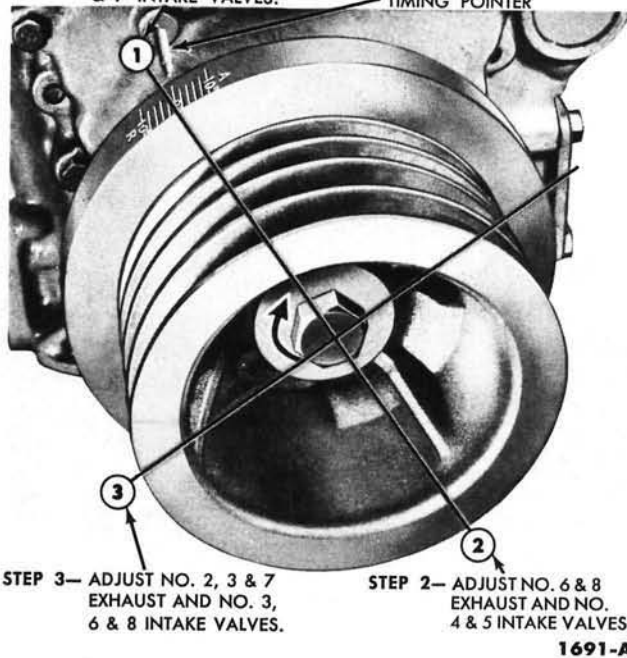

FIG. 27—Preliminary Valve Lash Adjustment
1. Make three chalk marks on the crankshaft damper (Fig. 27). Space the marks approximately 90° apart so that with the timing mark, the damper is divided into four equal parts (90° represents ¼ of the distance around the damper circumference).